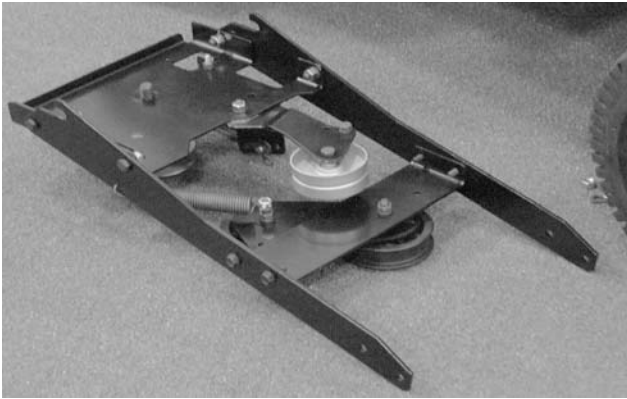

Figure 12-82.
- Attach extension spring between hex nuts on the flat idler, leaving slightly loose, and hole on right side plate. See Figure 12-82.